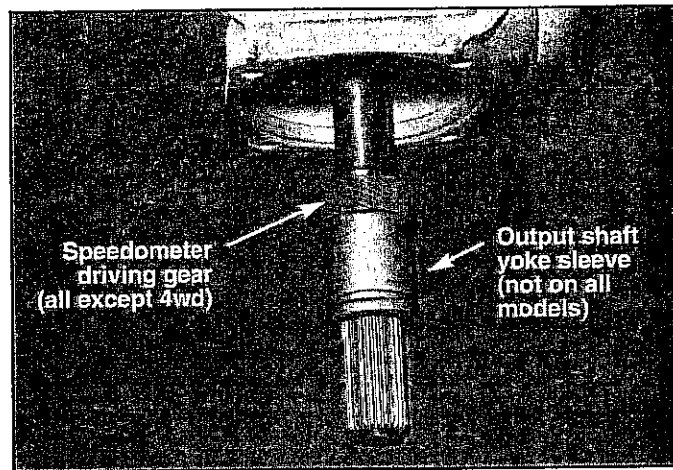

FIGURE 6
STEP 12. Remove output shaft yoke sleeve on models so equipped. (See Fig. 6) Depress speedometer driving gear clip and remove gear and clip. Put them in the oil pan.